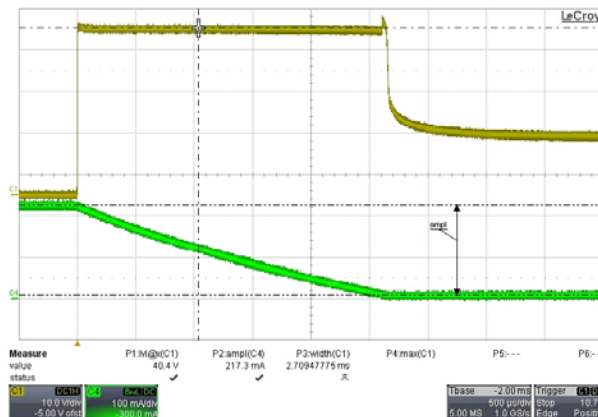

Figure 4. Repetitive Clamping Energy Test
2. Testing particulars, 2M pulses, $V_{bat} = 15\text{ V}$, $63\ \Omega$, 390 mH, $T_A = 25^\circ\text{C}$. (See Figure 4)